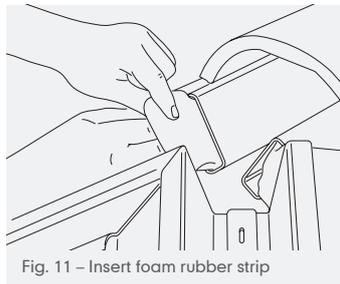

Fig. 11 – Insert foam rubber strip
- 23 At hip apex, mitre dry hip batten sections together as closely as possible. When forming a junction with the Marley ventilated dry ridge system, cut the foam rubber strip no less than 100mm longer than required and insert into dry ridge batten to ensure a watertight seal' (Fig. 11).